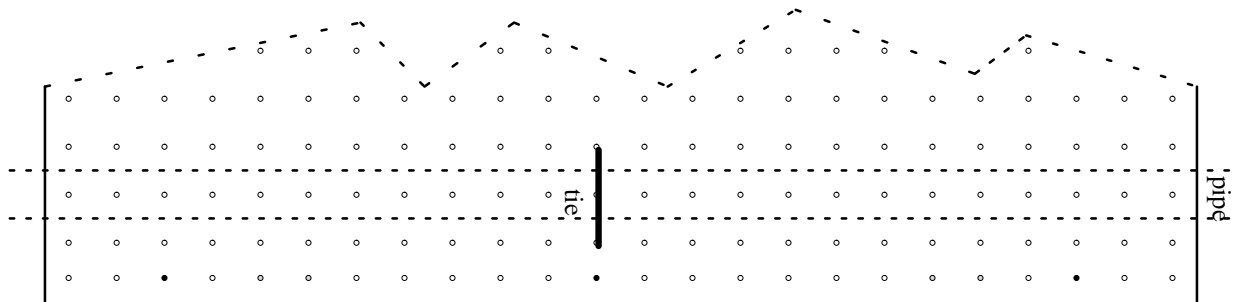

Figure 15
4. Tie bottoms of pegboard together with pipe cleaners or long, thin tie wraps, as in figure 15; if you are using hooks, the idea is both to prevent the pegboard from being knocked upwards (e.g., when a piece of art is take off), which could let the hooks come off the pipe.